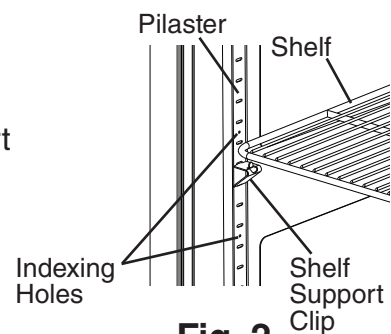

Fig. 2
1. Place the shelf support clips into the pilasters (4 shelf support clips per shelf). Indexing holes are provided on the pilasters in evenly spaced intervals to assist you in positioning the support clips at the same height. See Fig. 2.